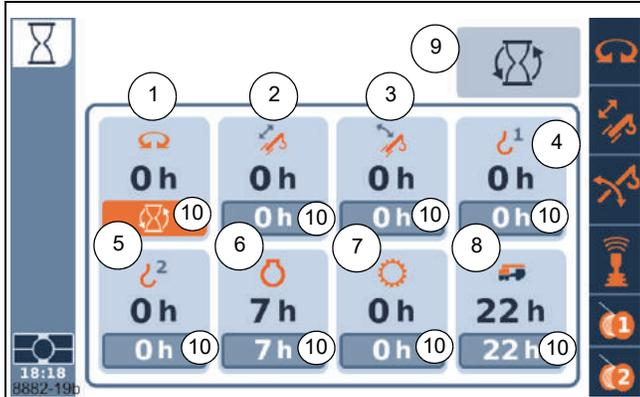

FIGURE 4-41
The Operating Hours Function Screen (Figure 4-41) displays the total accumulated operating hours for the different crane functions as well as offers a resettable trip meter for each crane function.
1. The value (6), (Figure 4-41) indicates the total engine operating hours as 7 hours.
2. The value (10), (Figure 4-41) shows the operating hours, which can be reset.